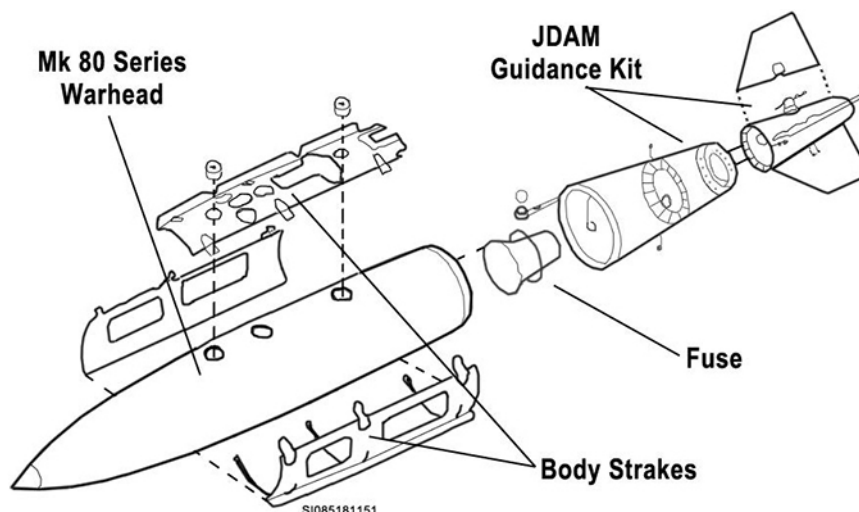

Figure 1-14. JDAM guidance kit.
The Joint Direct Attack Munition (JDAM) is an existing unguided free-fall general purpose bomb converted into an accurate, adverse weather, “smart” munition (fig. 1-14). The guidance set consists of a tail kit, which contains an INS and GPS systems, a set of aero-surfaces, and an umbilical cover, which allows the JDAM to improve the accuracy of unguided, general purpose bombs in any weather condition. The KMU-5XXB/B configurations are equipped with a selective availability anti-spoofing module (SAASM) added to existing tail kits. The SAASM electronics module is capable of using new GPS security features. The KMU-5XXC/B configurations are equipped with anti-jam (AJ) equipment consisting of a new antenna and associated electronics on the tail kit. Anti-jam variants allow the JDAM to navigate with precision using GPS signals in regions containing active GPS jamming. JDAM can be launched from very low to very high altitudes in a dive, toss, and loft delivery. JDAM enables multiple weapons to be directed against single or multiple targets on a single pass. JDAM is a joint Air Force and Department of Navy program.